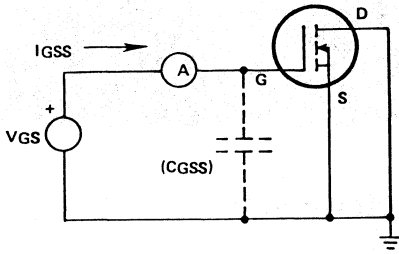

Figure 4. N-Channel I_{GSS} Measurement
- B. I_{GSS} – The gate to body leakage current. It is measured with drain and source at ground, and gate biased to specified voltage. NOTE: Due to input capacitance, large die size MOS transistors may prove difficult to measure with automatic test equipment, unless a preconditioning test is performed to charge the gate capacitance prior to test. (See Figure 4 for the measurement circuit.)